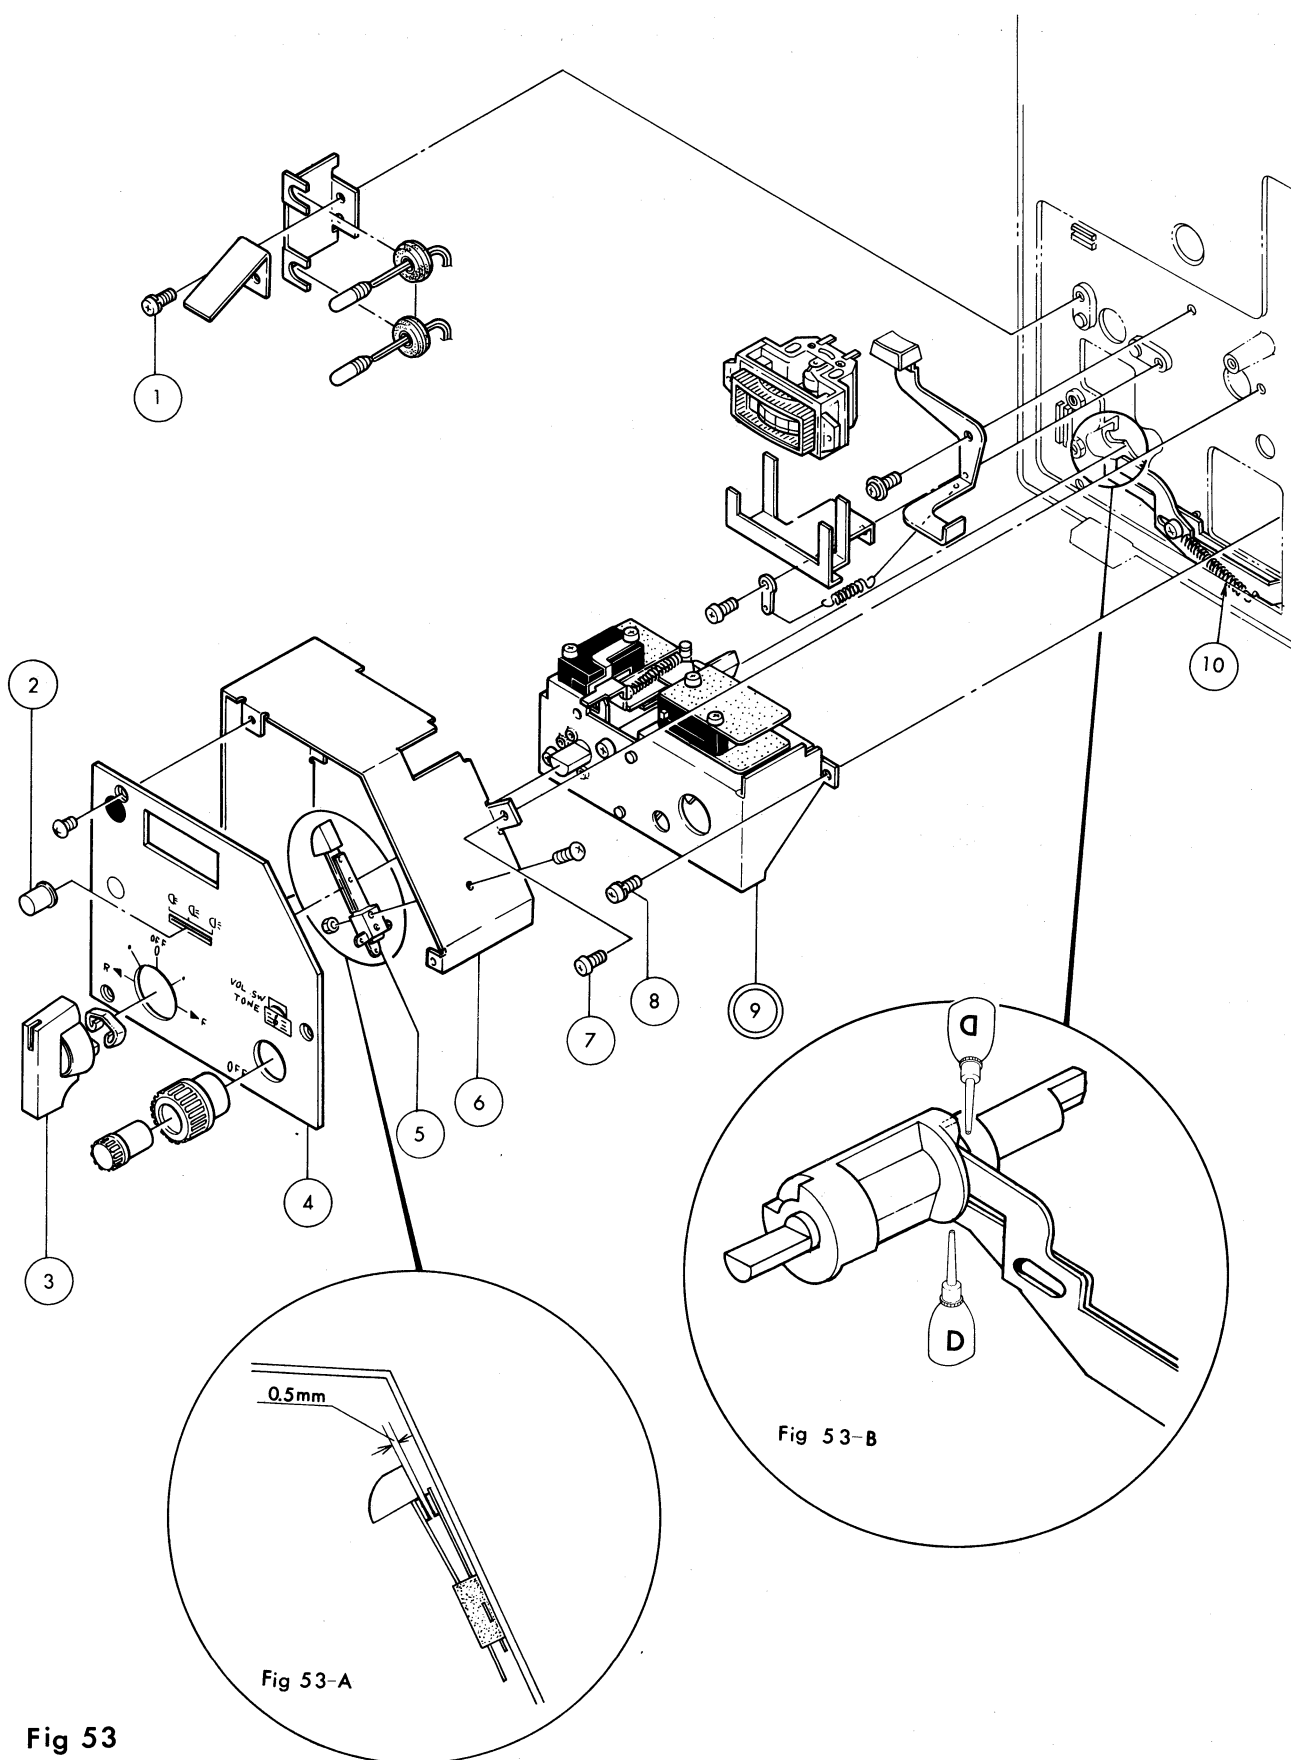

Fig 53
A. Disassembly Refer to Fig.53.
2. Pull out the (2) and (3). Remove the (4).
3. Unsolder the wires connected to the (5). Unscrew the (1)(7) and remove the (6).
4. Remove the (8)x3 and pull out the ((9)).
- Contact space of (5) is too wide; Auto-thread is not released.
- Contact space of (5) is too narrow; Auto-thread is not set.
- Insufficient spring pressure of (11);
- Insufficient adjustment of Fig.53-B; Heavy movement of the (3)
1. Paying attention to the Fig.53-B, push the ((9)) in the projector and tighten it by (3)x3.
Note : Adjust the contact space of (5) as shown in Fig.53-A.
- Wrong function of (8); Motor does not rotate or stop.
- Wrong function of (9); Unable to switch forward/reverse running
- Wrong function of (7); Lamp does not light.
- Insufficient pressure of (2); Click of motor knob does not work.
- Defective (3); Still projection is not possible.
1. Attach the parts, referring to Fig.53, 54.